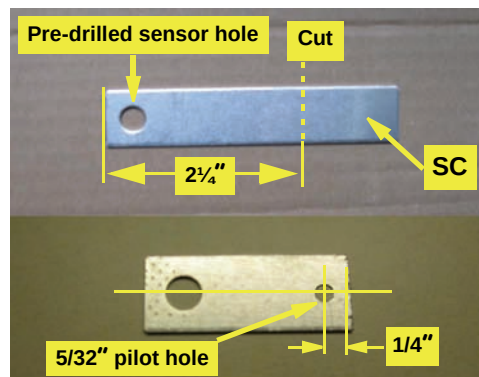

Figure 1c: Cut and drilled sensor bracket
- c. Cut the aluminum sensor bracket **SC**  $2\frac{1}{4}$ " from the end with the pre-drilled sensor mounting hole (Figure 1c - top), then drill a  $\frac{5}{32}$ " pilot hole on the centerline of the bracket. Drill the hole so that its center is  $\frac{1}{4}$ " from the cut end (Figure 1c - bottom).